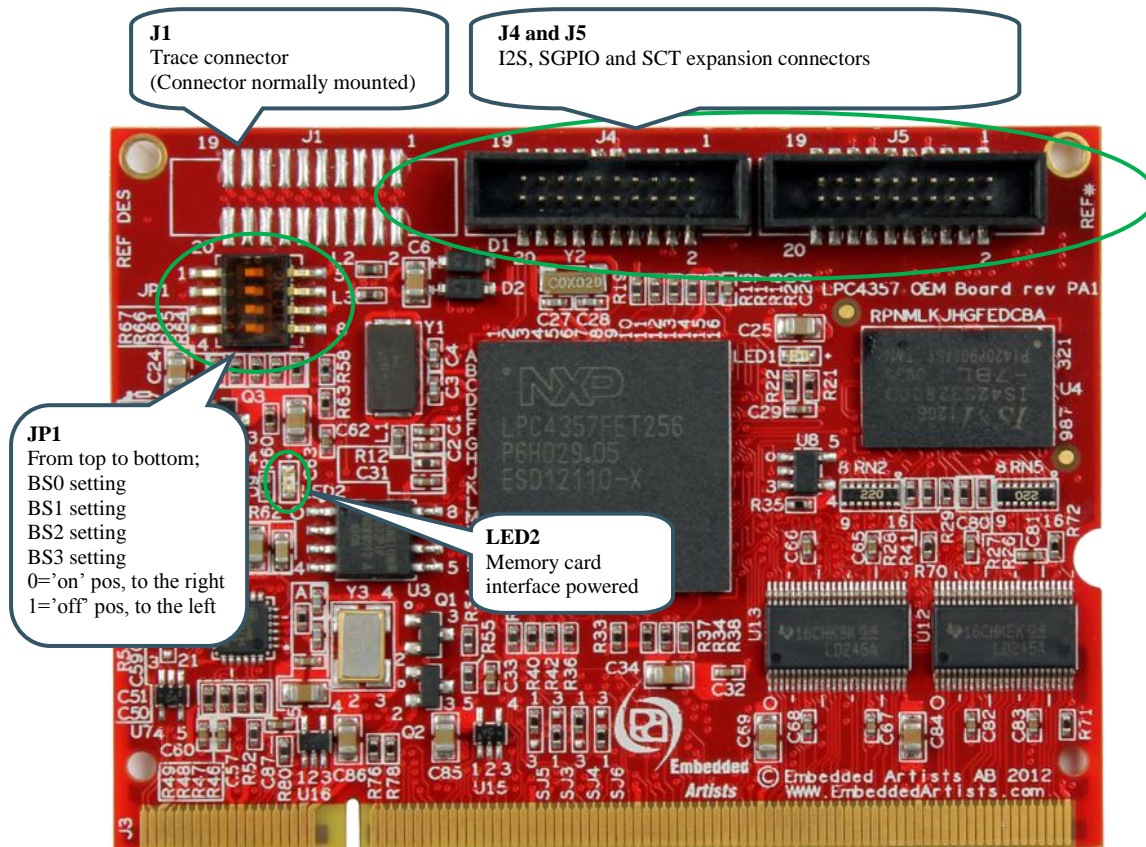

Figure 1 – LPC4357 OEM Board Picture, top side
There is a connector on the top side of the LPC4357 OEM board, carrying all signals needed for debugging with trace. It is a standard 20 pos (50 mil pitch) trace connector as defined by ARM. Figure 1 illustrates where J1 is located on the board.
There are two 20-pos, 50 mil pitch connectors on the top side of the LPC4357 OEM board. See Figure 1 for location. These connectors carry selected I2S, I2C, SGPIO and SCT signals and can be used to connect these signals to a separate expansion boards. For example an audio and video expansion board. Note that some of the signals can be used on the OEM base board. Before using the signals, always check for possible contentions.
There is a uSD/transflash memory card interface connector, J2, on the bottom side of the board. See Figure 2 . LED2, on the top side, lights when the interface is powered. See Figure 1 to locate LED2.